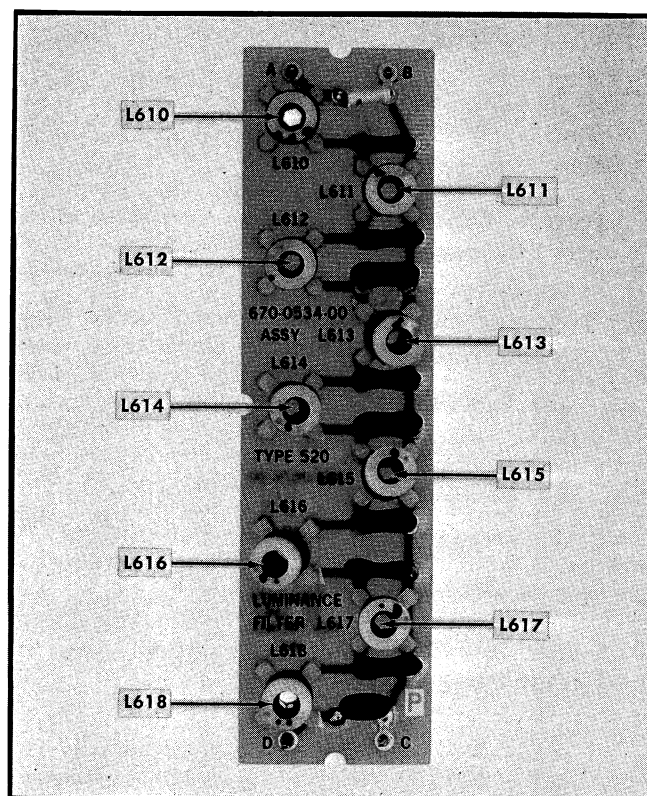

Fig. 6-19. Luminance filter board adjustment locations.
f. ADJUST—L610 through L618 located on the luminance filter board (see Fig. 6-19) for a test oscilloscope waveform having a flat top with minimum aberrations.